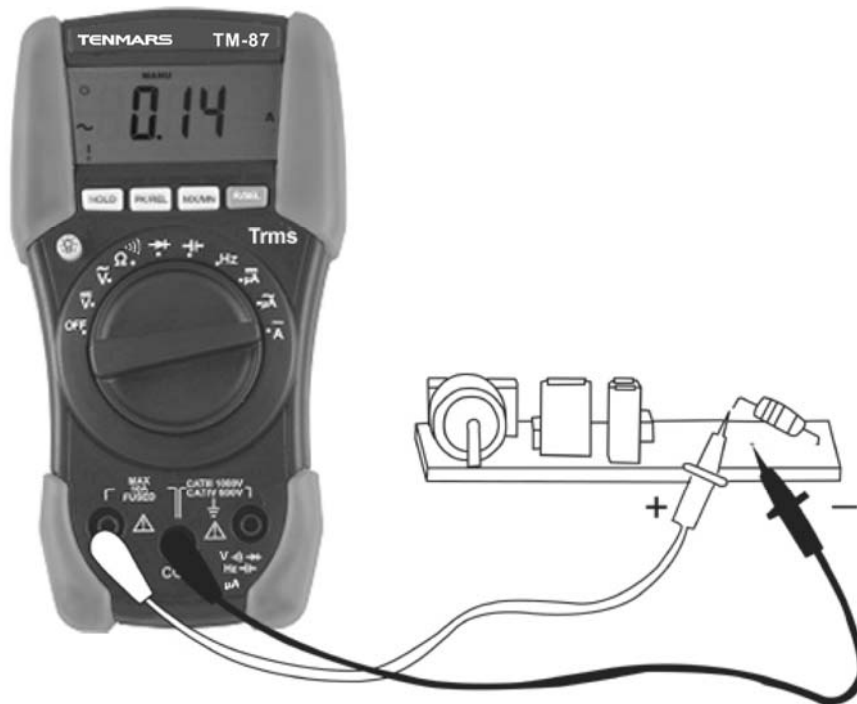

Fig. 5: Using the instrument for AC Current measurement
3. Insert the test leads into the jacks, the red plug into **A** jack and black plug into **COM** jack (see Fig. 5).